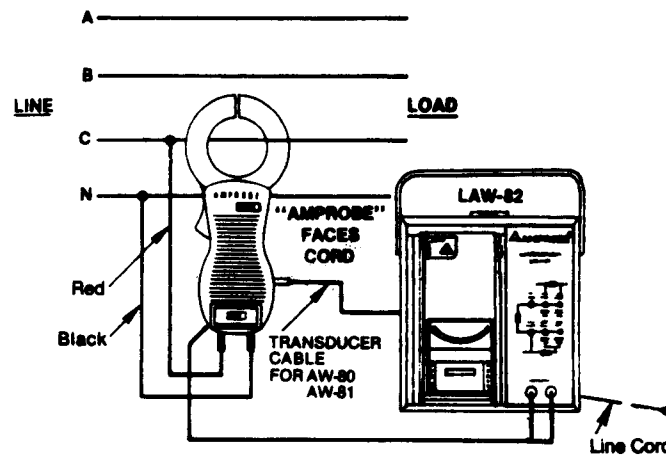

Figure 5
- b) Insert phono plug lead on LAW-82 (Transducer Cable. See Fig. 5) into jack on the right side of the AW-80/81.